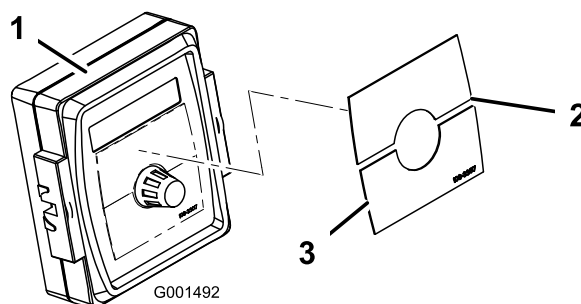

Figure 4
1. Install the Spray Pro Decal to the monitor (Figure 4).